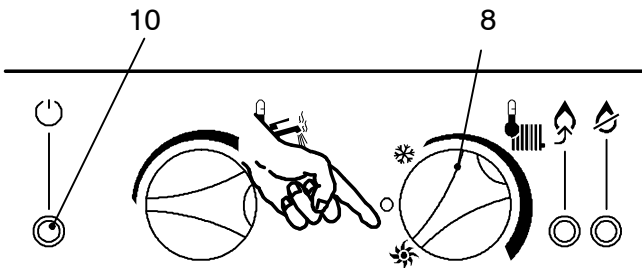

fig. 2.6
- 4 If d.h.w. supply only is required (combi), position the function selector 8 as in fig. 2.6. The appliance operation light 10 will flash every 2 seconds (operating boiler).